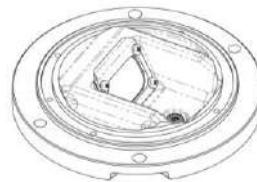

Figure 5-10
- Place the prism pressing bracket and prism washer to the working position and screw the M5×12 screws into the threaded holes after dipping a little of anaerobic adhesive (see Figures 5-10);